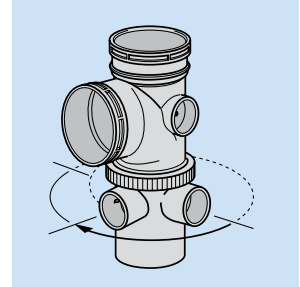

Fig. 29
- Rotate lower unit so that waste connections are in required position (Fig. 29).